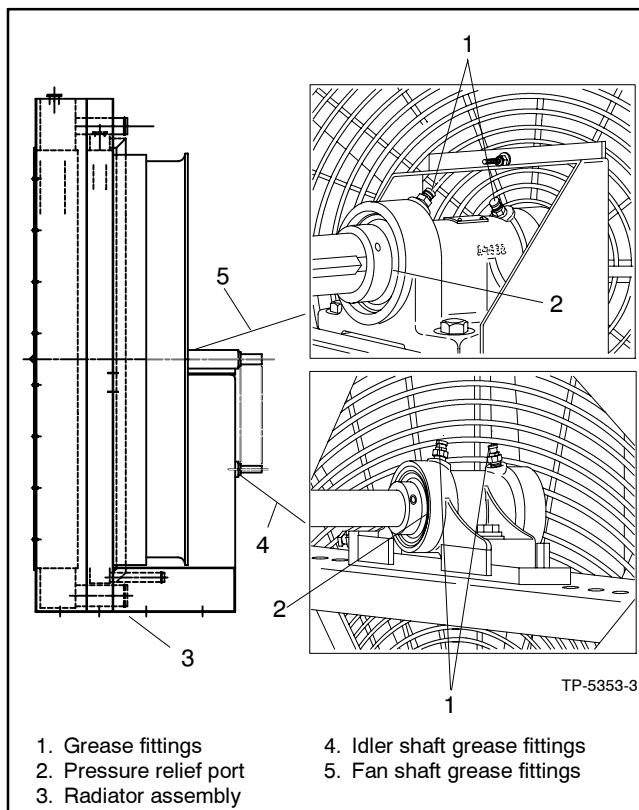

Figure 3-7 Radiator Fan Bearings and Pressure Relief Ports, Typical
4. Inject grease into the two bearings on the fan shaft block and the two bearings on the idler shaft block using a grease gun until a 3-6 mm (0.13-0.25 in.) grease column shows at the bearing pressure relief port. See Figure 3-7.